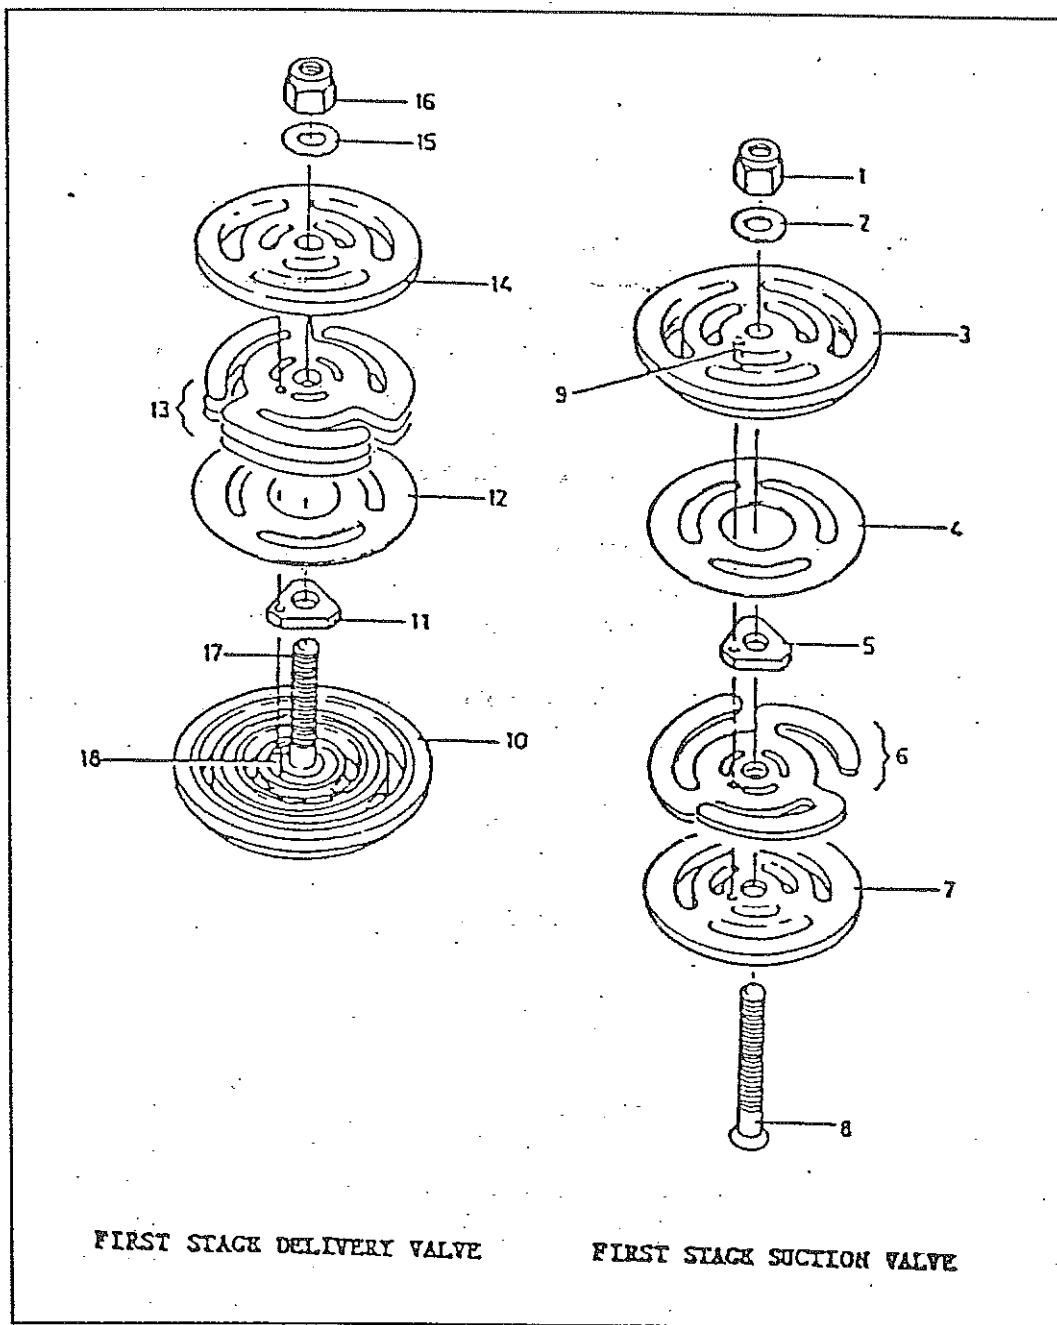

FIGURE 13-4 FIRST STAGE VALVES
FIRST STAGE SUCTION VALVE OVERHAUL (FIGURE 13-4)
13.3.2.4 FIRST STAGE DELIVERY VALVE OVERHAUL (FIGURE 13-4)